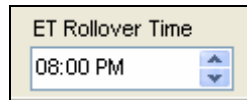

Figure 16.5.11A
ET Roll Over Time: This is the time when your controller will roll the days ET gage number into the ET table. Set the time by using the **UP** and **DOWN** arrows or by clicking on the block and entering the time. All (ET) pulses recorded during the past 24 hours will be rolled over into the (ET) table (Figure 16.5.11A).